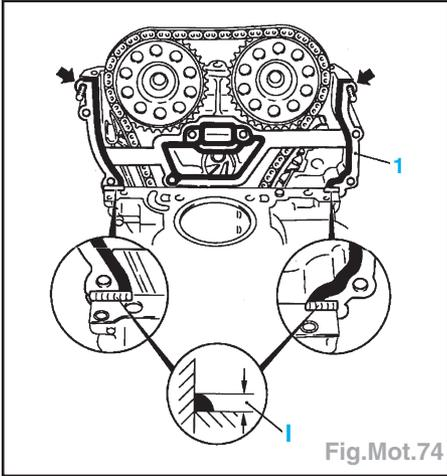

Fig.Mot.74
- Adapter le joint de carter de distribution (Fig.Mot.74).